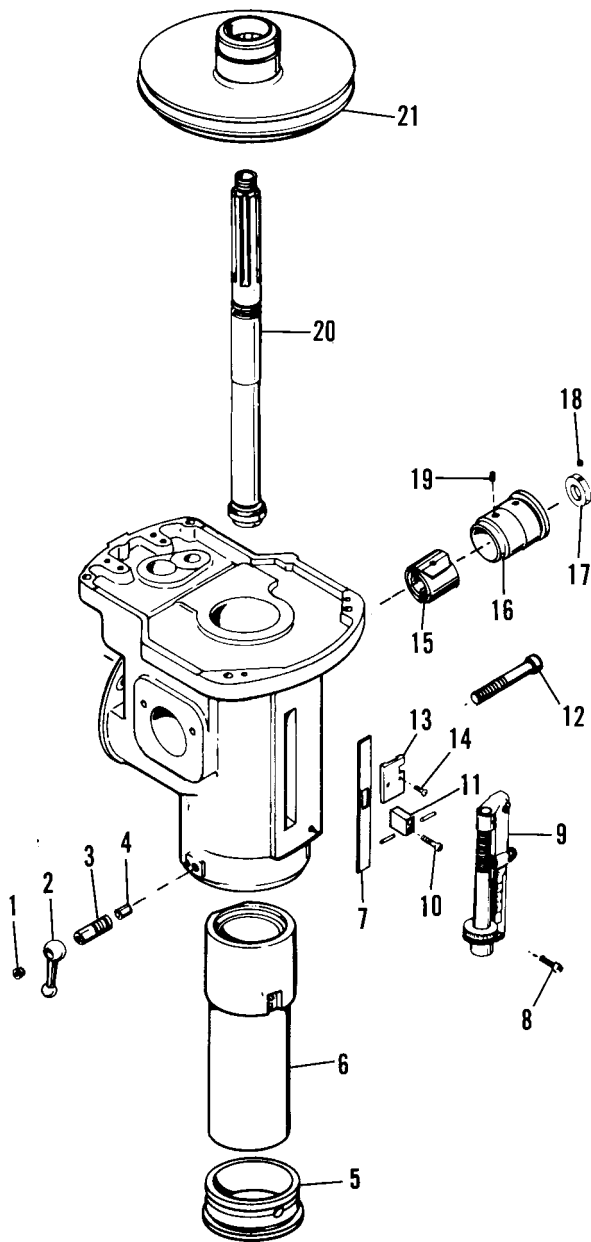

Figure 15. Removing Spindle Exploded View
41. REMOVING SPINDLE (figure 15)